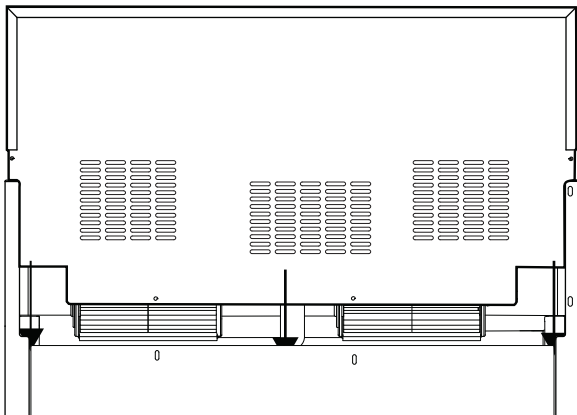

Figure 16: Backguard Installation
- Align the back panel of the new accessory with the flanges on the range side panels right and left rear corners. The backguard is inserted inside the guide channels on the back of the range (Figure 16).